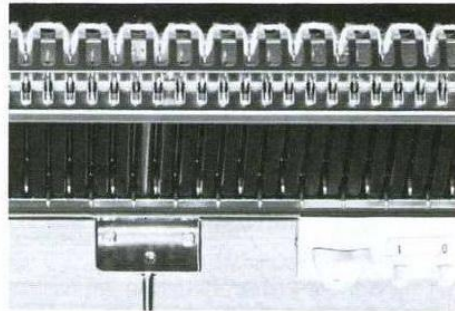
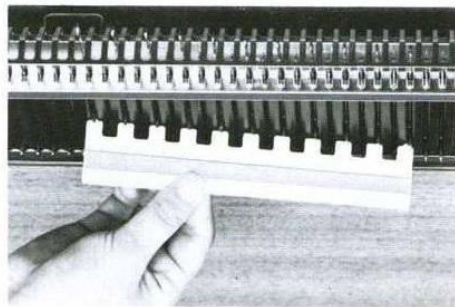

Fig.37
Fig.38
- (e) Hook the cast-on comb over the yarn so that the comb hangs in front of the sinker plate. Make sure that the comb is suspended in a horizontal position. (Fig.37) The yarn on the carriage side of the machine should be placed under the hook of the comb immediately to the left of the last needle and then brought to the front of the comb, so that it feeds freely into the needles when the carriage is moved to the right. (Fig.38)